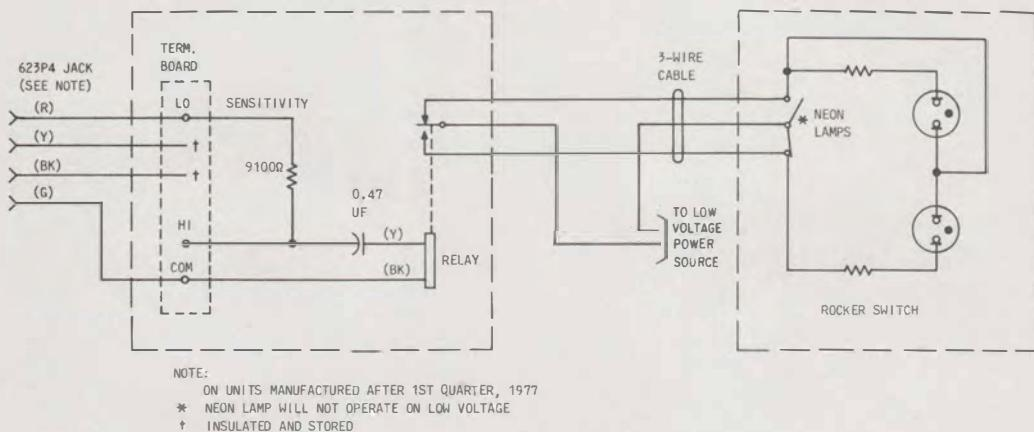

Fig. 32—KS-20614, List 2 Relay Switch—Schematic
4.04 KS-20614L2 Relay Switch (Fig. 32):